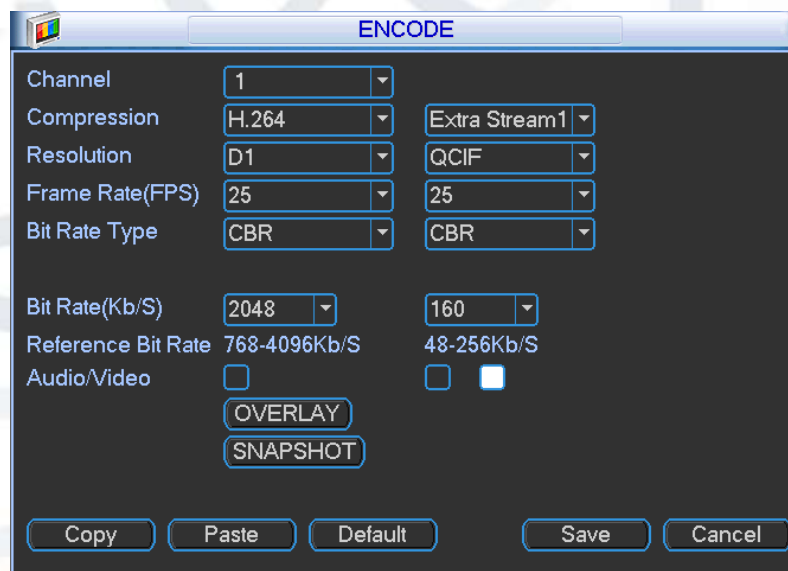
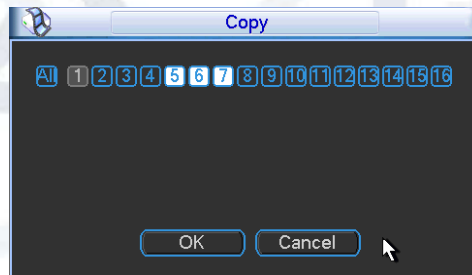

Figure 5-19
Figure 5-22
Encode setting includes the following items. See Figure 5-19.
- **Copy:** After you complete the setup, you can click Copy button to copy current setup to other channel(s). You can see an interface is shown as in Figure 5-22. You will see current channel number is grey. Please check the number to select the channel or you can check the box ALL. Please click the OK button in Figure 5-22 and Figure 5-19 respectively to complete the setup.